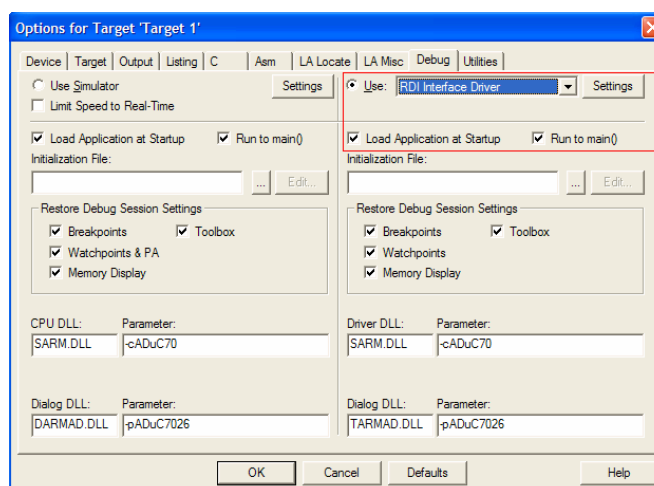
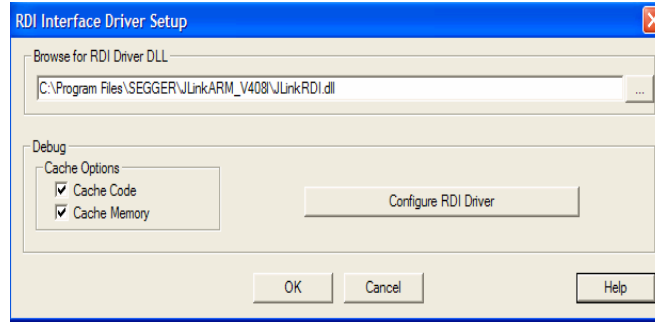
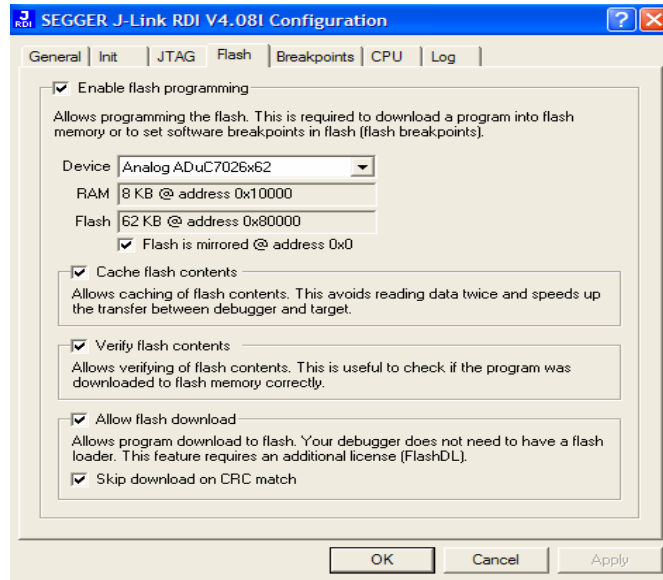

Figure 7
Figure 8
Figure 9
(3) Configure the Debug tab as figure 7 shows.
- (4) Click the “Settings” button in figure 7 and then choose the JLINKRDI.dll file as figure 8 shows.
- (5) Click the “Configure RDI Driver” button in figure 8 and then choose the device as figure 9 shows. We can use the default option for the other tab.